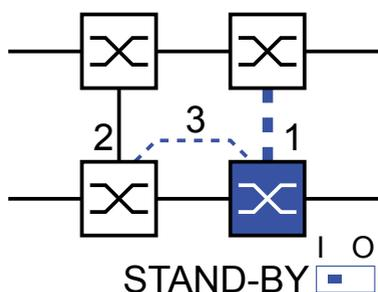

Figure 36: Two-Switch coupling with control line
- Select "Two-Switch coupling with control line" by means of the dialog button with the same graphic as below (see fig. 36).